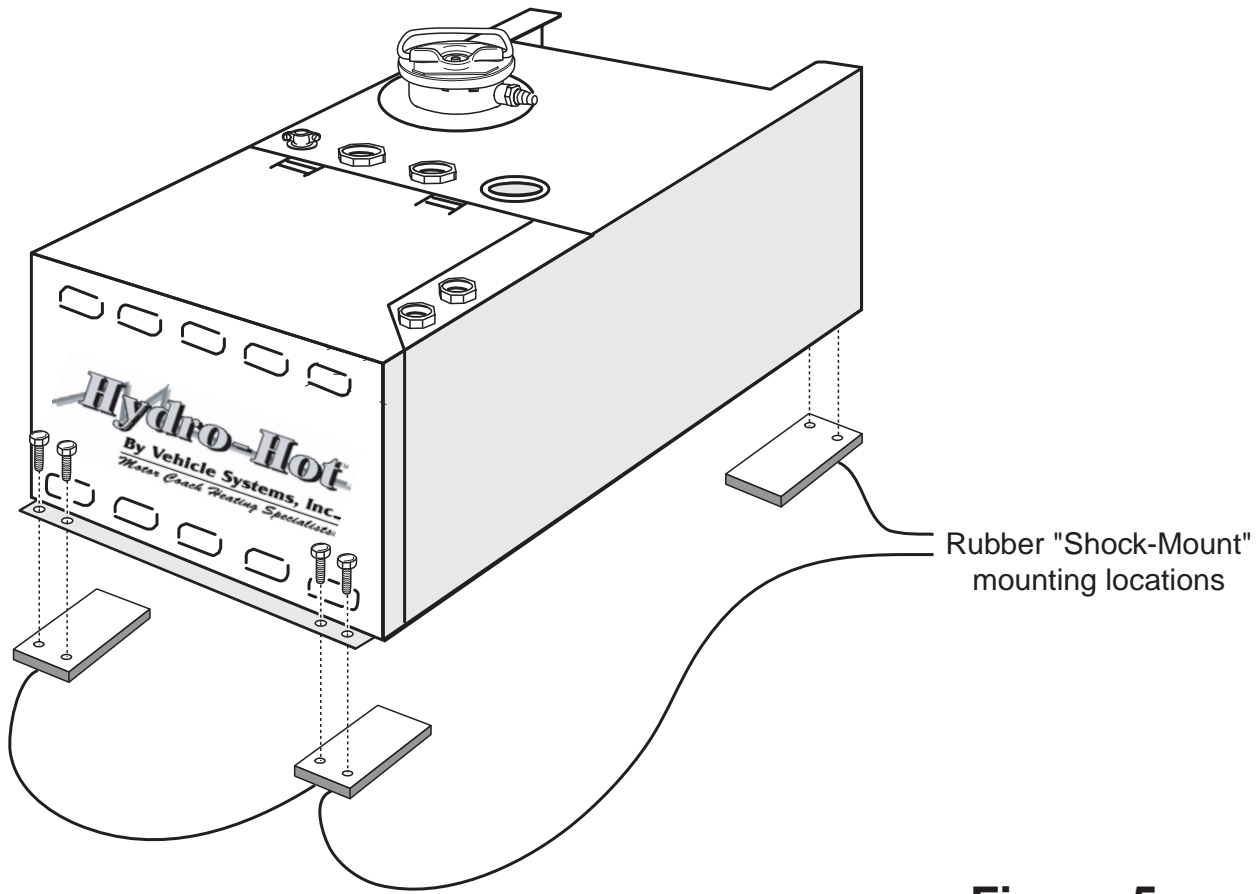

Figure 5
2. Place the vibration / Rubber Shock-Mounts (adhesive side up) on all four corners of the Hydro-Hot underneath the Mounting Bracket Holes, see Figure 5.